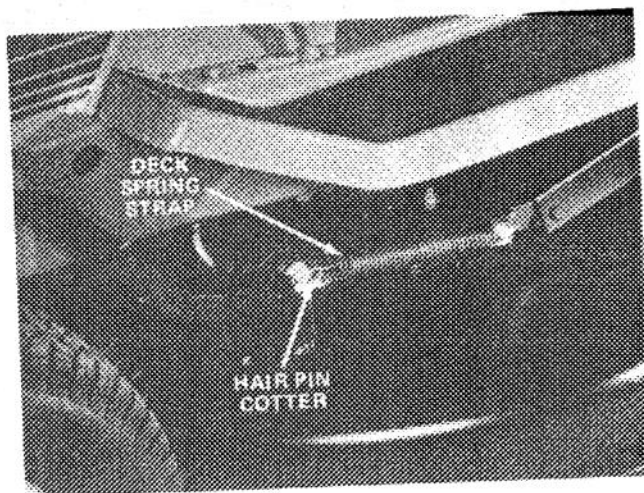

Figure 36
5. Pull the deck spring straps forward while pushing deck rearward and position the clevis pins through the strap holes. Install a flat washer and a hair pin cotter to secure the assembly (Fig. 36).